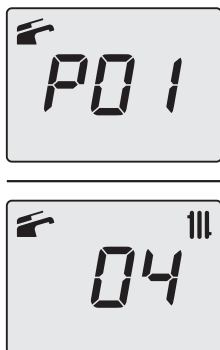

Figure 9.31
- By pressing the keys 13 and 15 simultaneously (Figure 9.28) exits the level without changing the value (return to the previous level Figure 9.31).